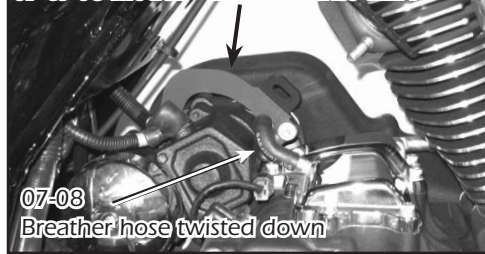

FIGURE 3
Late Models 07-08: Replace the bracket on the transmission housing with new bracket stamped 423-P (supplied) and torque to 13-16 ft/lb (Figure 3).
- Remove head pipes and heat shields from protective packaging. Place each heat shield on a non-abrasive surface such as a blanket or carpet. Using a pencil only, mark outside edge of each heat shield to show location of mounting clips that hose clamps (supplied) will loop through (Figure 3).